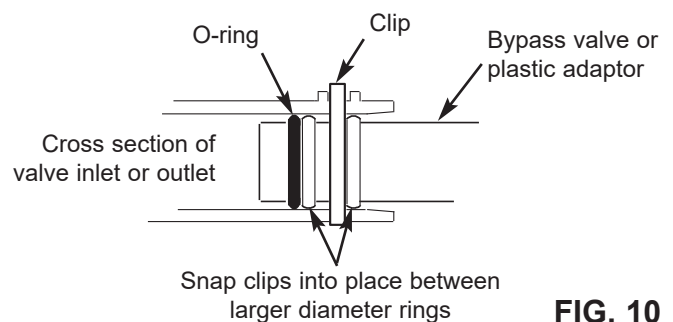

FIG. 10
- Snap the two large plastic clips in place on the inlet and outlet ports, from the top, down (See Figure 10). Be sure they snap into place. Pull on the bypass valve, or installation adaptors, to make sure they are held securely in place.